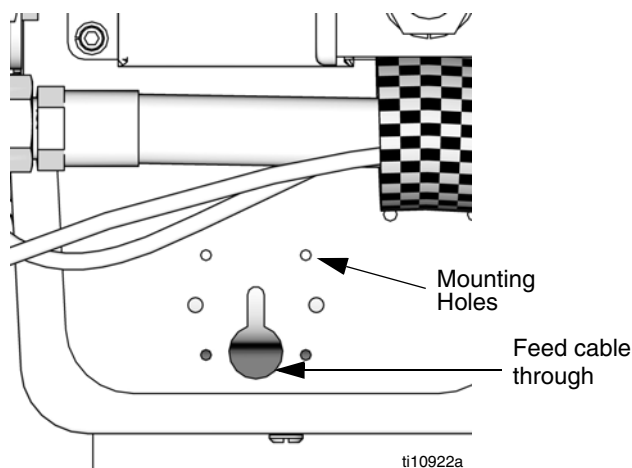

FIG. 2: Hole Pattern
3. Feed the light tower cable through the hole of the light tower mounting pattern. See FIG. 2.